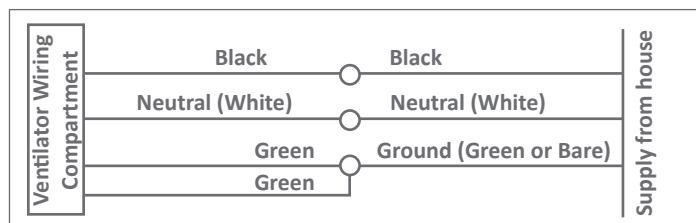

Figure 6
2. Pull the loose black, white and green wires out from the wire compartment (additional wires will be present). Install an approved cable connector to the hole in the wire compartment cover (not included) to protect the wire from being cut by the sharp metal of the hole in the cover. Run a black (hot), white (neutral), and a green or bare ground wire from the supply through the cable connector. Connect all wires from the supply to their corresponding wires within the wire compartment (Figure 6). Use approved methods for all connections.